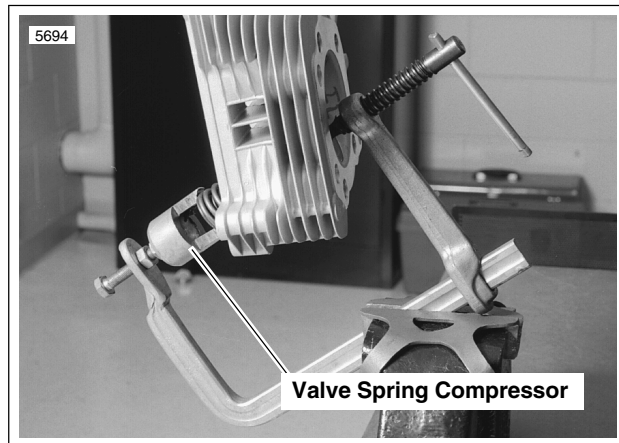

Figure 3-10. Valve Spring Compressor
1. See Figure 3-10. Compress valve springs with **VALVE SPRING COMPRESSOR (Part No. HD-34736B)**.